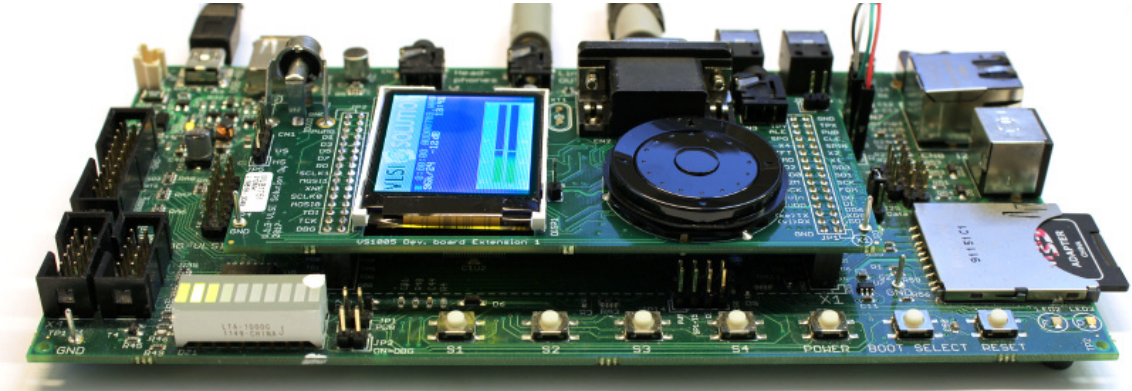

Figure 1: VS1005 Dev. Board Extension 1 v1.0.
- VS1005 Dev. Board Extension 1 v1.0, installed as shown in Figure 1.
- USB cable between Ext1 and PC for uploading new software, connected to USB-AB (top left on Developer Board, not pictured in Figure 1).
- UART or USB->UART cable connected between DevBoard and PC for using the UART interface. Data speed is 115200 bps, format is 8N1. The UART cable is wired to the DevBoard CN9/RS232 as follows: Black to GND, JP2/26 White or Yellow to TX, Green to RX, and finally Red to 5V, as shown in Figure 1.